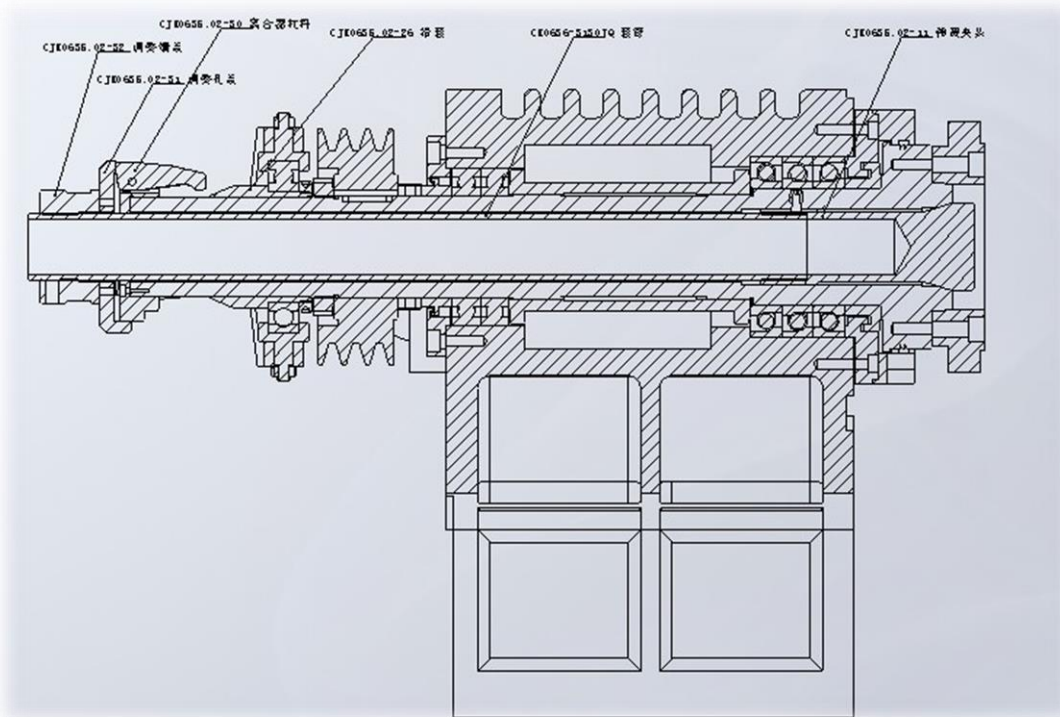

Figure 5: pneumatic clamping device.
3.1.6 Lubricating device (schematic diagram of lubricating system is shown in figure 5)